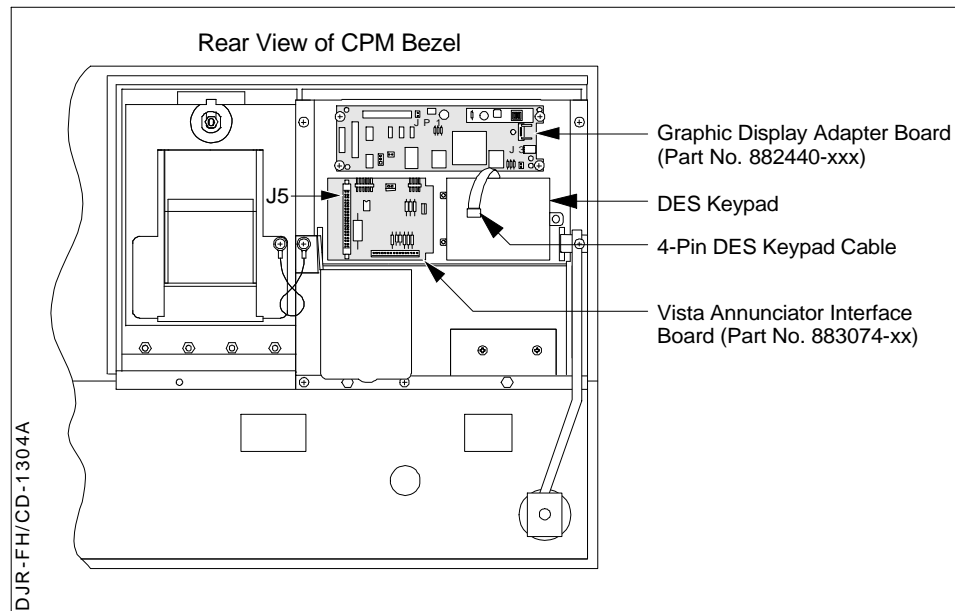
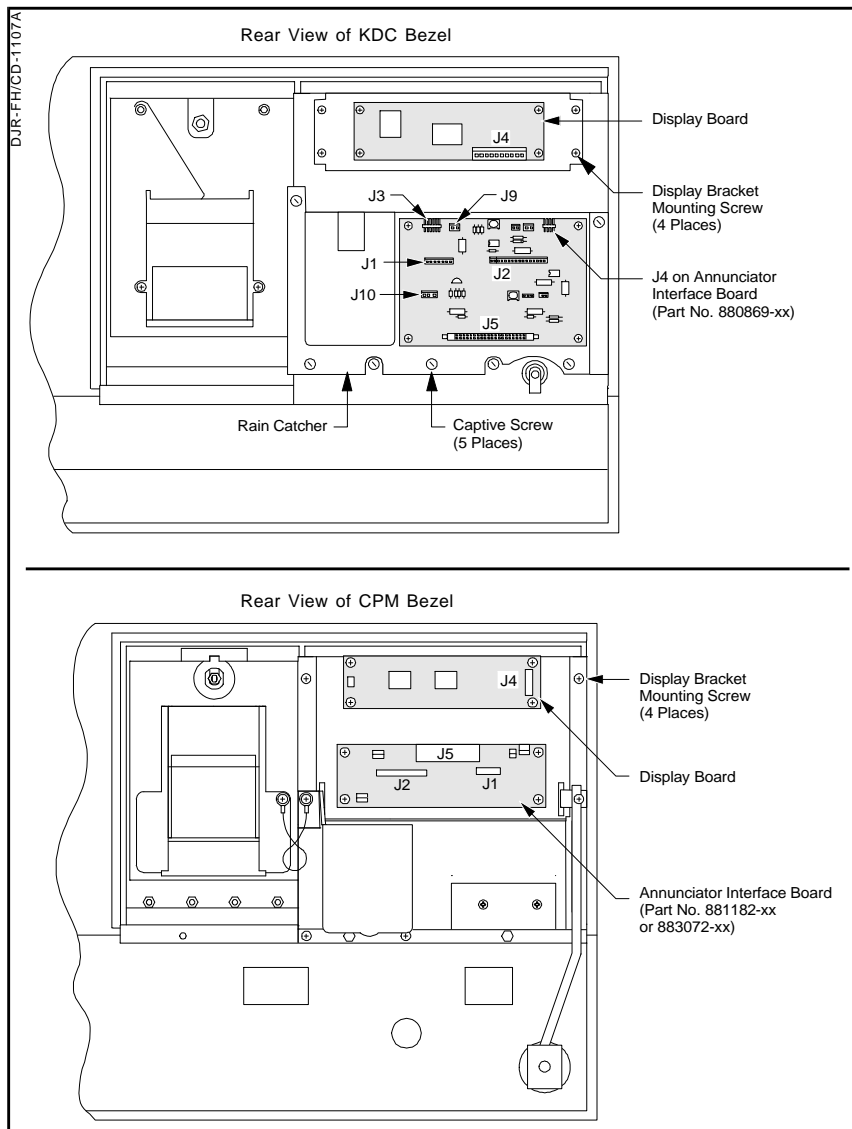

Figure 2-3 Disconnecting Cables on Back of Graphic Display Bezel
Figure 2-4 Disconnecting Cables on Bezel Back
- a. If the bezel is equipped with a graphic display, disconnect the graphic display heater cable (PN 882827-001) plugged in the 2-conductor black connector that routes on the right side of the graphic display. See Figure 2-3.
- b. Disconnect the cable assembly (PN 881524-001) installed in J5 on the annunciator interface board. Refer to Figure 2-3 and Figure 2-4 for the following steps.